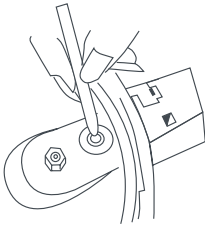

Fig.3
Safety valve (7). Housed inside the handle and with access for checking and assembly from inside the cooker, it acts when there is excessive pressure and causes constant release of steam via the cooker handle (Fig.3). Furthermore, it prevents opening the cooker while there's pressure inside. If you notice valve malfunctioning or it's stopped working take